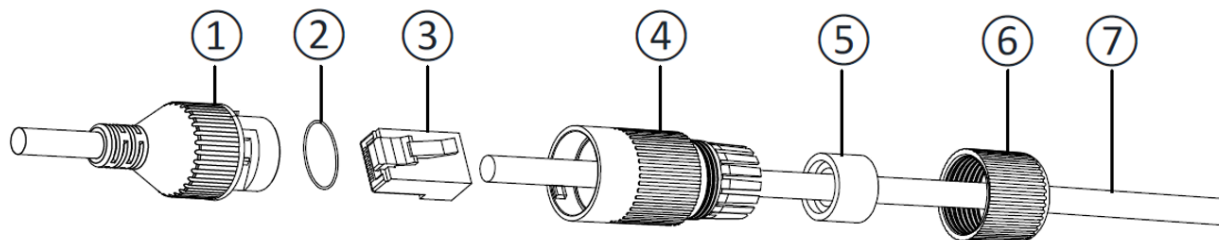
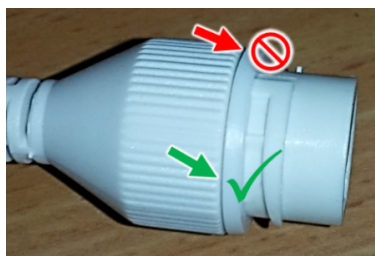

Figure 10. Assembling the Waterproof Cap
Figure 11. Seating the O-type Gasket
2. Seat the O-type gasket (2) onto the end of the camera's network interface socket (1) (see Figure 10). Ensure that the gasket lies flat on the socket, without gaps or twists (see Figure 11).